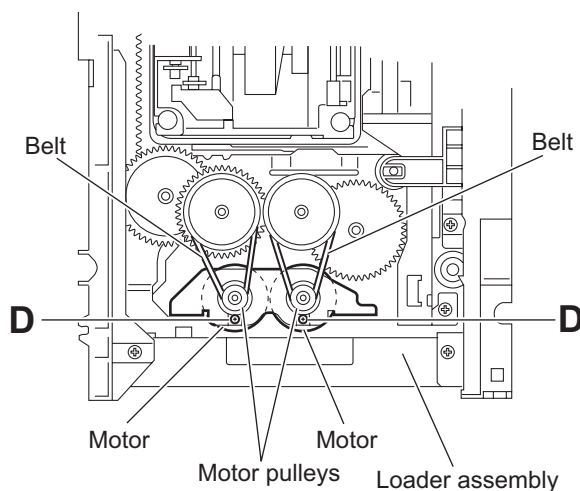

Fig.9
3.2.4 Removing the motor board (See Figs.9 and 10)
- (1) From the top side of the DVD changer mechanism assembly, remove the two belts from the motor pulleys. (See Fig.9.)
- (2) Remove the two screws **D** attaching the motors to the loader assembly. (See Fig.9.)